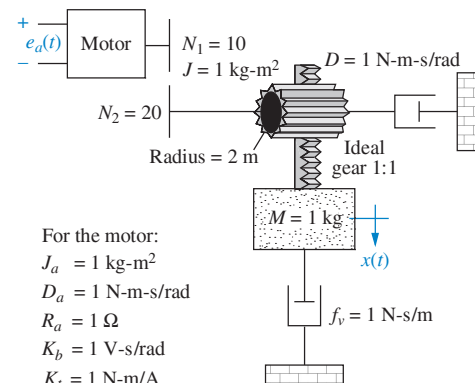

FIGURE P2.33
49. Find the transfer function,  $G(s) = X(s)/E_a(s)$ , for the system shown in Figure P2.33. [Sections: 2.5–2.8]